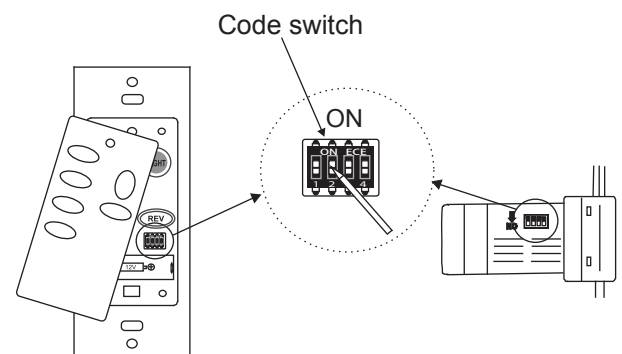

Fig. 12
**NOTE:** The frequencies on your receiver and wall transmitter have been preset at the factory. Before installing the receiver, make sure the dip switches on the receiver and wall transmitter are set to the same frequency. (Fig. 12)